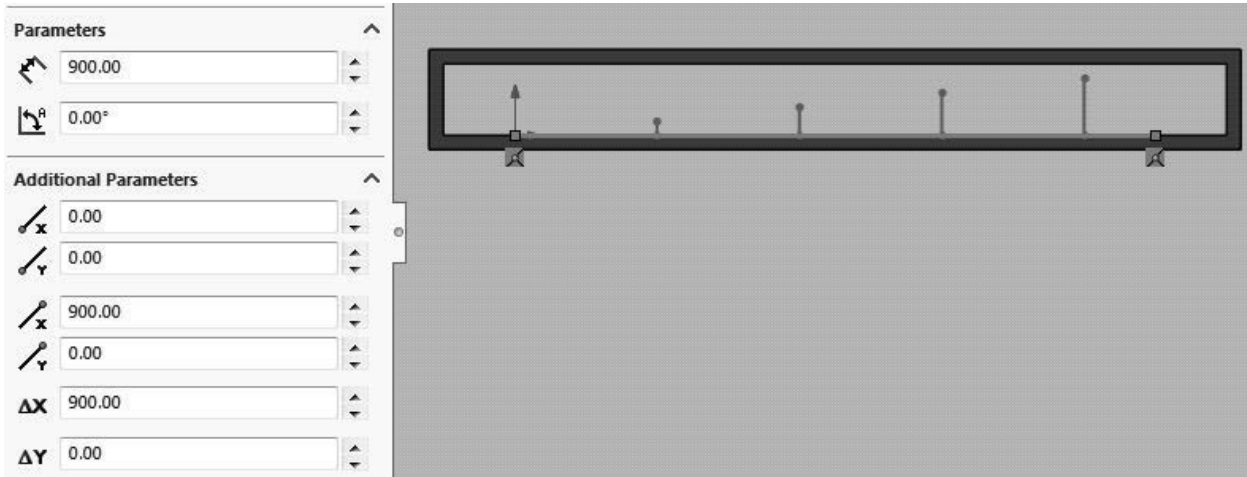

Figure 2.9 Sketch of a line in the X-direction
- Click on the **Rebuild** symbol  in the SOLIDWORKS menu. Repeat step 6 and draw a horizontal line in the X-direction starting at the origin of the lower inner surface of the sketch. Set the **Parameters** and **Additional Parameters** to the values shown in figure 2.9 and close the **Line Properties** dialog and the **Insert Line** dialog. Click on the **Rebuild** symbol. Rename the sketch in the **FeatureManager design tree** and call it  $x = 0 - 0.9 \text{ m}$ .